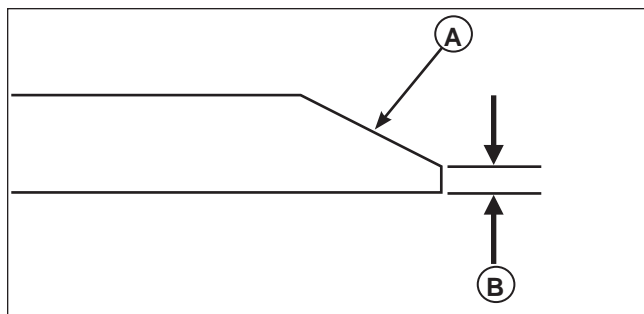

Figure 25. Sharpening the Mower Blade
3. Keep the original bevel (A, Figure 25) when grinding. Do NOT change the mower blade bevel.
4. The mower blade should have a maximum 1/64" (0,40 mm) cutting edge (B) or less.